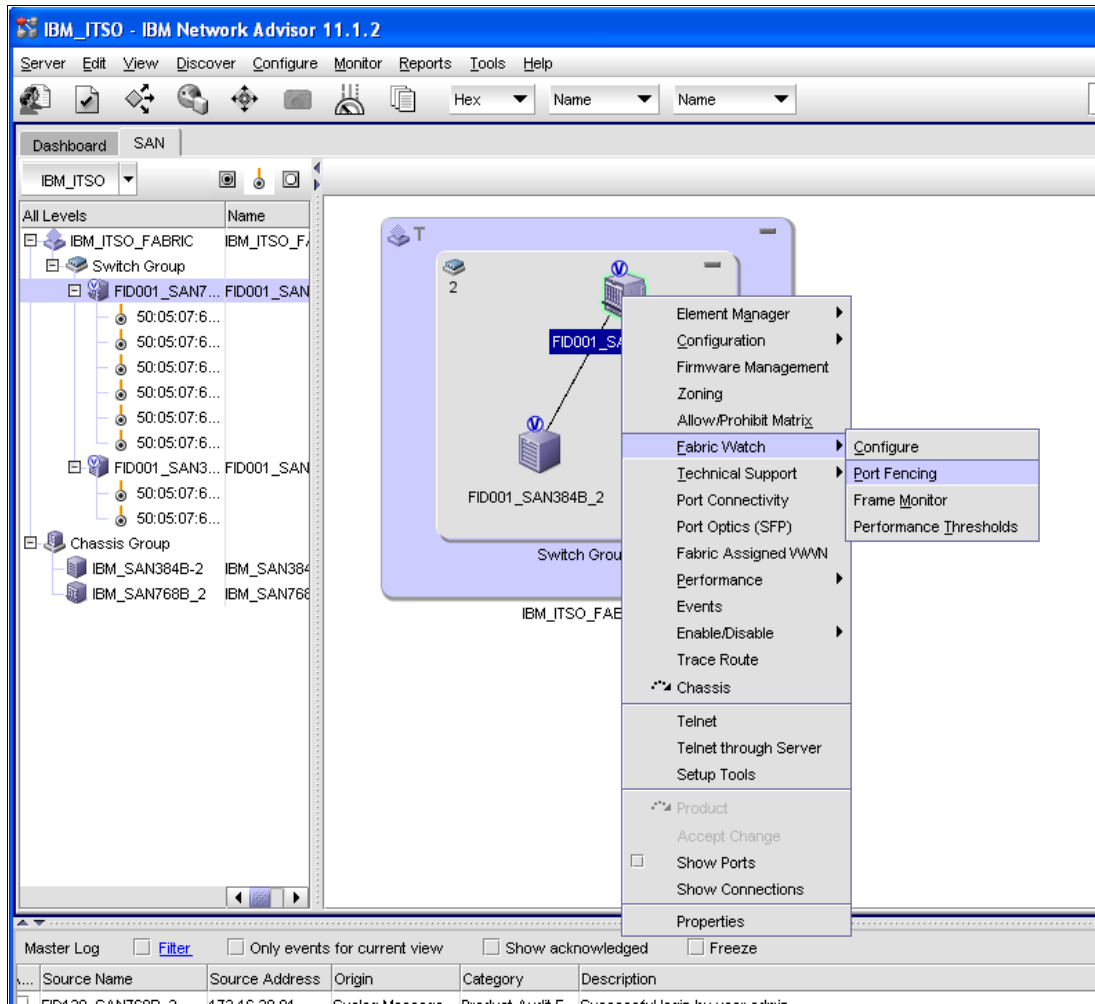

Figure 8-54 Port Fencing
1. In the IBM Network Advisor, select **Configure** → **Fabric Watch** → **Port Fencing** from the menu bar, as shown in Figure 8-54 on page 296.